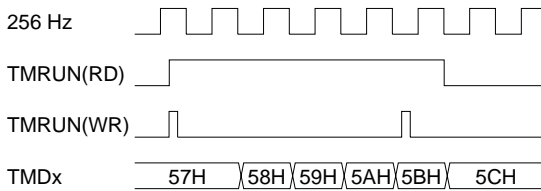

Fig. 12.4.1 Timing chart of RUN/STOP control
- (1) The clock timer is actually made to RUN/STOP in synchronization with the falling edge of the 256 Hz signal after writing to the TMRUN register. Consequently, when "0" is written to the TMRUN, the timer shifts to STOP status when the counter is incremented "1". The TMRUN maintains "1" for reading until the timer actually shifts to STOP status. Figure 12.4.1 shows the timing chart of the RUN/STOP control.